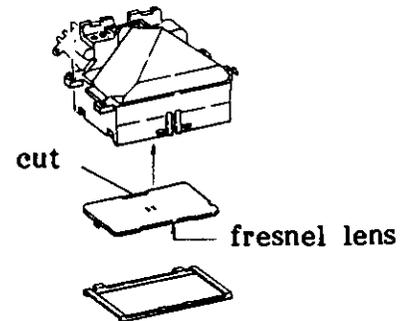

Fig. 2-2:
2. Install with the cut toward the rear and the fresnel lens up, as shown in figure 2-2.